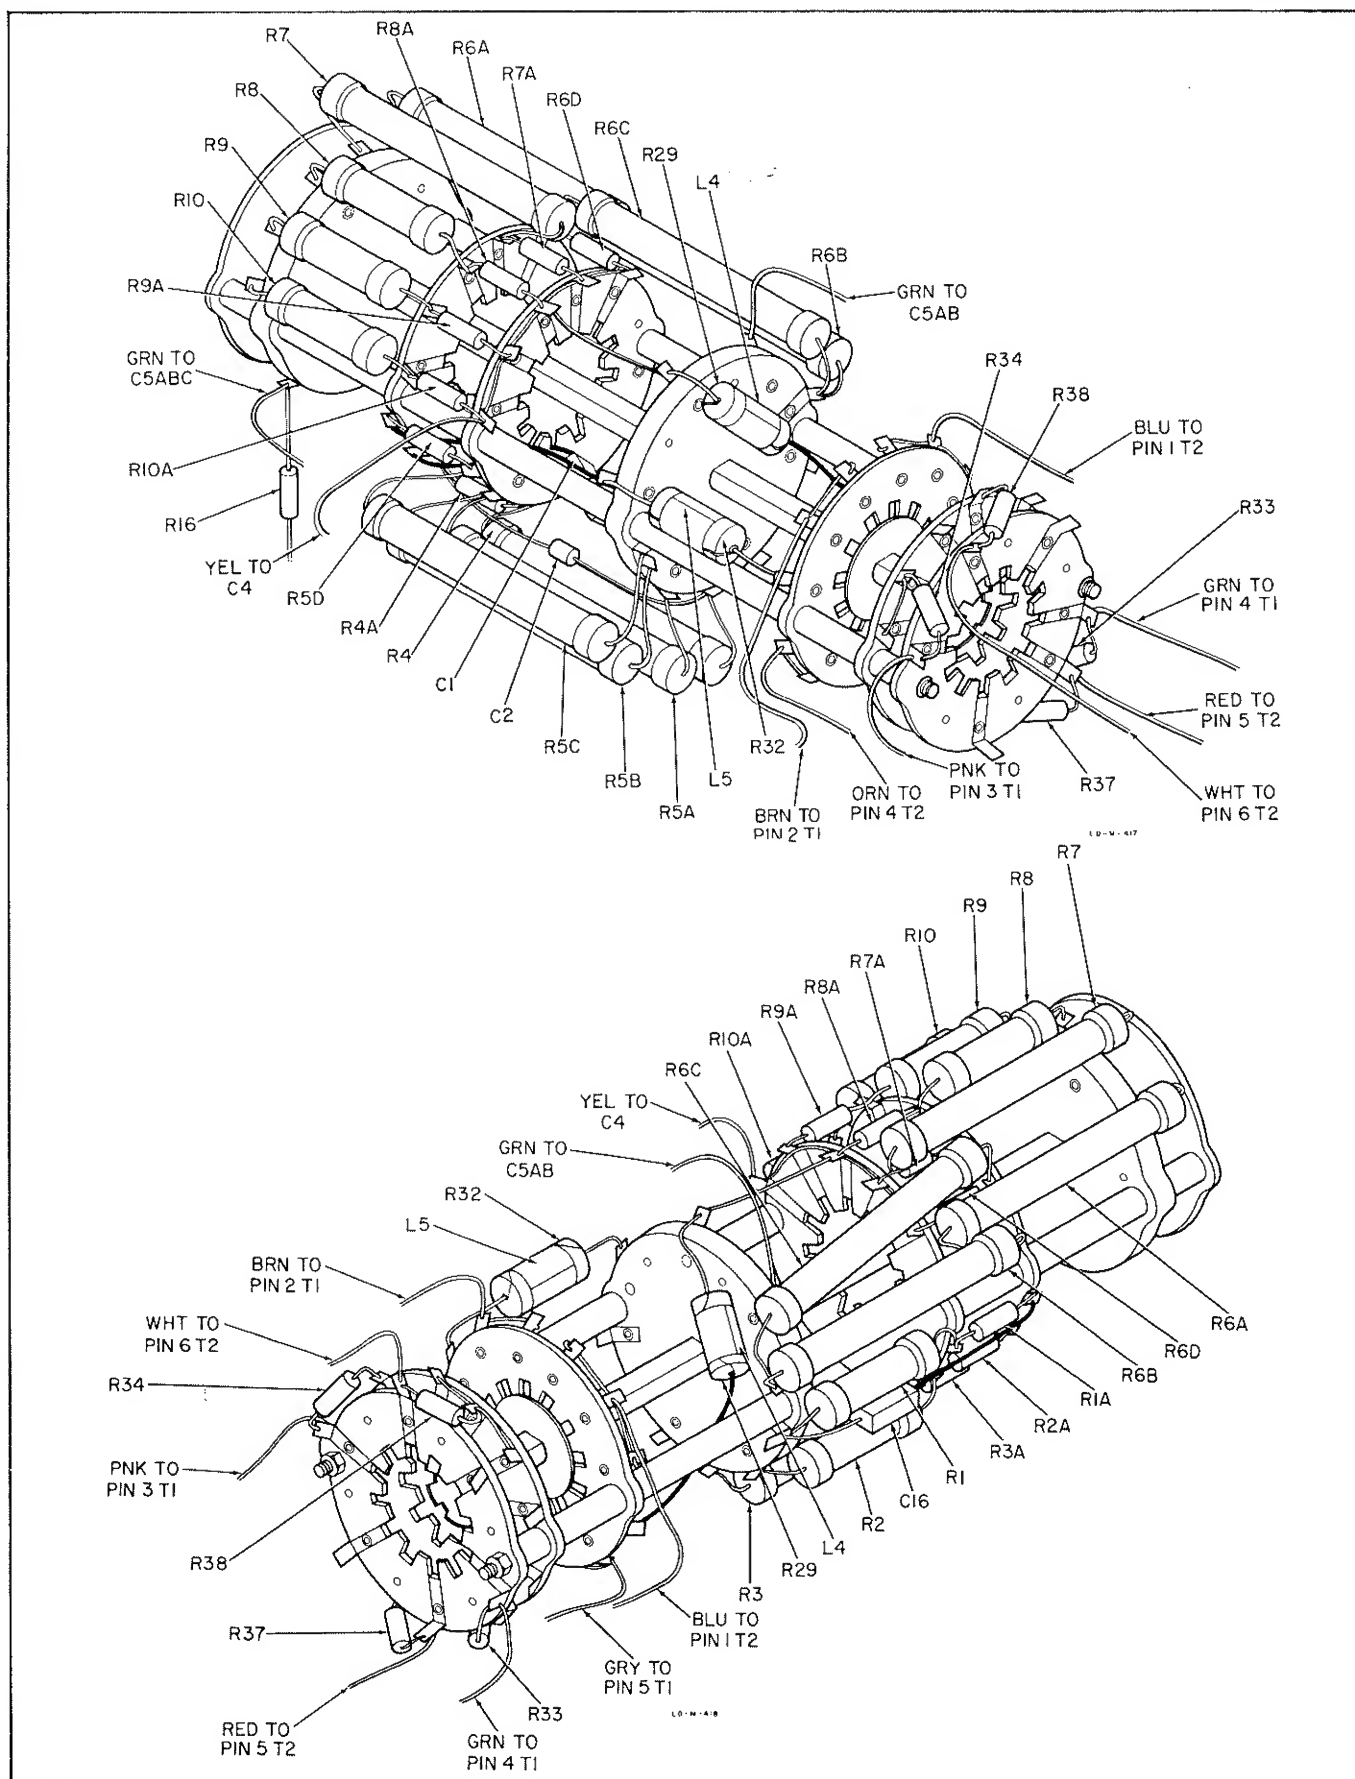

Figure 4-6. Range Switch Detail
- d. Using the 412A, 410B Electronic Voltmeters, or other suitable voltmeter, measure the positive and negative power supply voltages using ground as a reference. The positive voltage (approximately 225 volts) may be measured between the chassis and C14. The negative voltage (approximately 155 volts) is measured from the chassis to the junction of R30, R31, and R40 (figure 4-6). The difference between the negative and positive voltage should be 380 volts  $\pm$  75 volts.
on all ranges. If one range is found to be badly out of calibration and all other possibilities have been exhausted (especially dirty RANGE switch contacts) try adjusting the value of C1, C2, C7 or C16 (depending on the range affected) slightly. If any part of the RANGE switch is found to be defective, it is recommended that the switch be replaced as an assembly. Figure 4-6 shows all wiring detail for replacement.